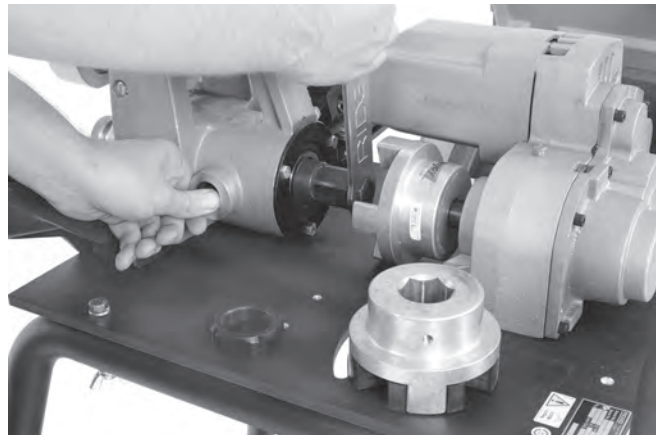

Figure 26 – Removing Draw Bolt
6. Use the 15/16" hex in the box wrench to loosen the draw bolt (*Figure 26*).